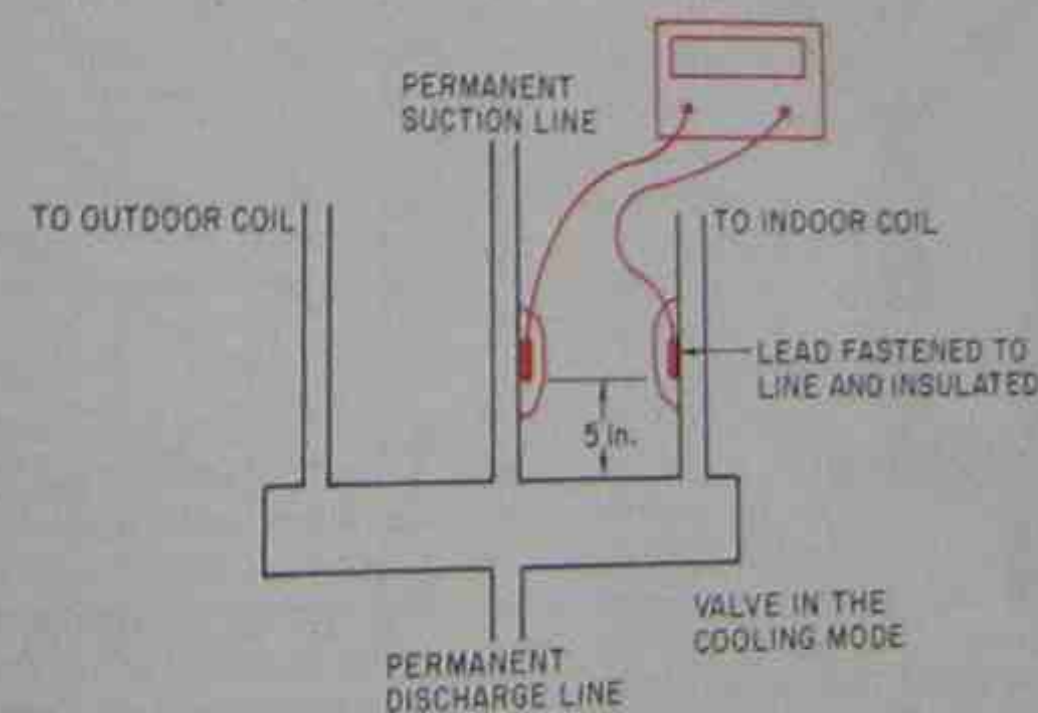

Figure 45-46. How to check performance of a four-way valve using temperature comparison.
symptom as small amounts of hot gas leaking from the high-pressure side of the system to the low-pressure side. When the gas is pumped around and around, work is accomplished in the compression process, but usable refrigeration is not available. When you suspect that a four-way valve is leaking from the high-pressure line to the low-pressure line, use a good-quality temperature tester to check the temperature of the low-side coil in summer or the outdoor coil in winter, and the permanent suction line between the four-way valve and the compressor. The temperature difference should not be more than about 1°F. \*Take these special precautions when recording temperatures: (1) Take the temperatures at least 5 in. from the valve body (to keep valve-body temperature from affecting the reading); (2) insulate the temperature lead that is fastened tightly to the refrigerant line, Figure 45-46.\*